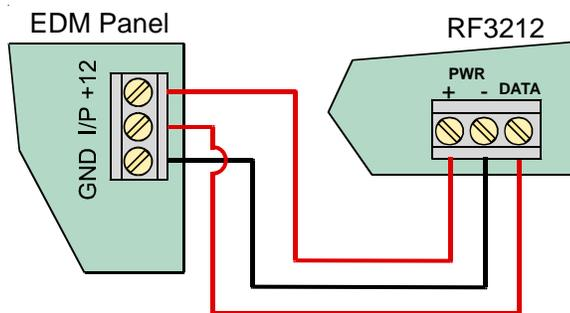

Figure 7 - Connecting to the EDM Panel
- Connect the Receiver Terminals to the Control Panel Terminals as shown in Figure 7 using 20 AWG (0.8 mm) or larger wire. Wire length between the Receiver and the Control Panel should not exceed 328 yards (300 m).